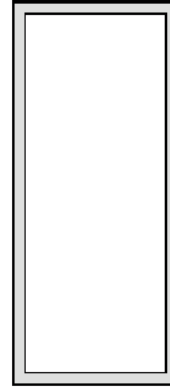

Figure 25. Solder Paste Application on Pins
- 4. The aperture opening for the signal pads should be between 50–80% of the QFN pad area as shown in Figure 25.